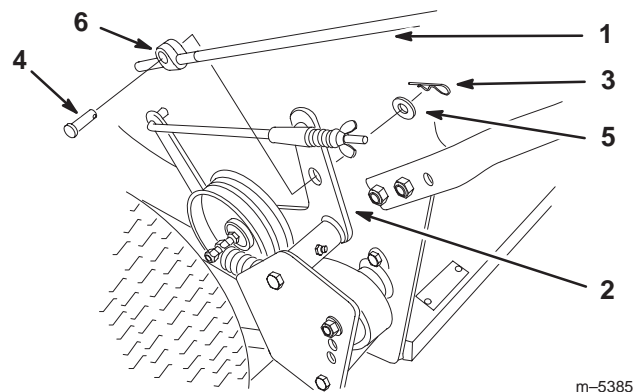

Figure 7
1. Thread rod fittings equal distance onto each control rod (Fig. 7).
2. Install rod fittings with clevis pins into holes in idler brackets (Fig. 7). Secure with washers and hairpin cottes (Fig. 7).
Note: Install rod fittings so the clevis pin is above the control rod, as shown in figure 7.